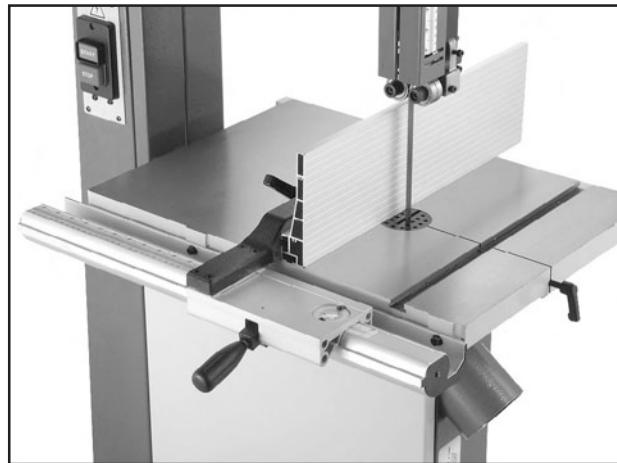

Figure 36. Correctly installed fence.
8. Pull the fence handle up and place the fence assembly on the fixed rail as shown in **Figure 36**.